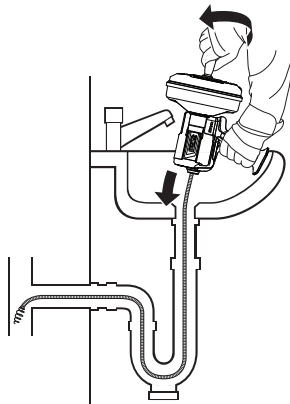
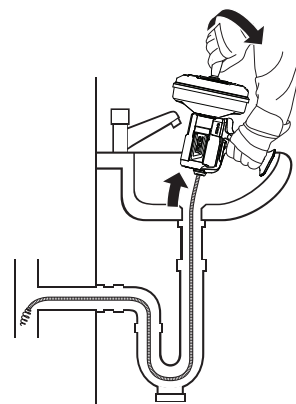

Figure 6 – Advance Cable
Figure 7 – Retract Cable
4. Turning drum clockwise advances cable, Figure 6. Counterclockwise retracts cable, Figure 7. Cable can also be advanced/retracted by hand. Advance cable until you encounter the blockage.
8. Retract cable (Figure 7). Pay attention to the cable during retrieval as the cable end can still become stuck.